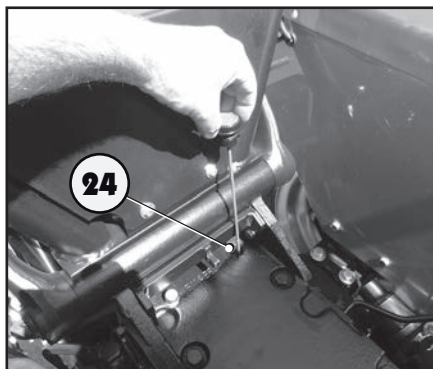

Fig. 6.25
- pull out the dipstick from the gearbox casing (Fig. 6.25);
- position an appropriately sized container under the drain plug (23) located on the lower side of the gearbox case;
- using the filler hole (24), put in the new oil up to the level between the minimum and maximum markers on the dipstick;